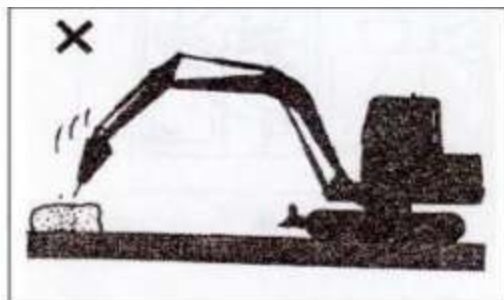

Fig 3-56
3. Do not use the breaker as a hammer, see Figure 3-56.